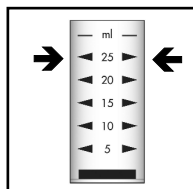

Figure 1
1. Fill the sample cup to the 25 mL mark with the sample to be tested (fig. 1).
2. Fill the sample cup to the 25 mL mark with the seawater sample to be tested (fig. 1).